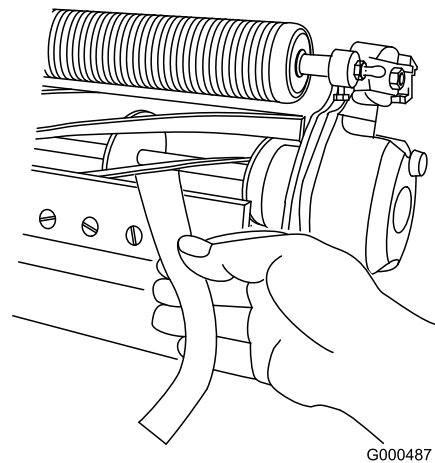

Figure 12
- B. Insert a long strip of cutting performance paper between the reel and bedknife, perpendicular to the bedknife (Figure 12), then **slowly** rotate the reel forward; it should cut the paper; if not, repeat steps A and B until it does.
11. Insert a long strip of cutting performance paper between the reel and bedknife, perpendicular to the bedknife (Figure 12), then **slowly** rotate the reel forward; it should cut the paper; if not, turn each bedbar adjusting bolt clockwise 1 clicks and repeat this step until it cuts the paper.